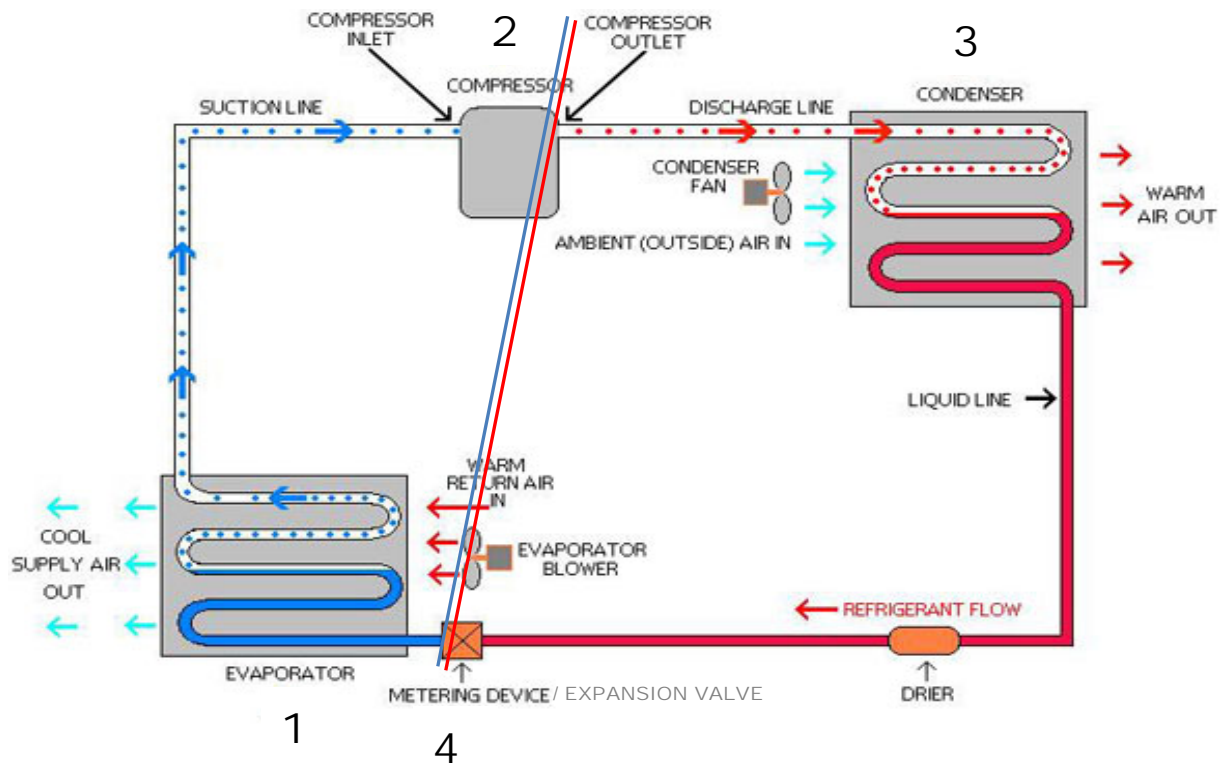

Figure 2: AC Refrigeration Cycle
A diagram of the AC refrigeration cycle (figure 2) shows the refrigeration process and key AC unit components. There are four (4) major AC components which are split into two (2) sections:
- Indoors - indicated in blue and includes AC parts numbered one (1) and two (2)
- Outdoors - indicated in red and includes AC parts numbered three (3) and four (4).
The refrigeration cycle is a process that removes heat from the indoor evaporator to outdoor condenser units. Let's start the process with the AC evaporator (#1 in figure 2) which is a heat exchanger that uses the refrigerant to absorb heat into the air conditioner system. Specifically, the liquid refrigerant flows through the evaporator where it absorbs indoor heat causing the liquid refrigerant in the evaporator to boil and become vapor. Note that the refrigerant usually flows from the bottom of the evaporator coils and boils as it moves to the top in the evaporator. A primary function of the evaporator is to boil the liquid refrigerant so that it becomes vapor.
The second step of the refrigeration cycle involves the compressor (#2 in figure 2) which is often called the heart of the AC unit. As stated earlier, it's one of the dividing points between the high and low pressure sides. The compressor produces the pressure differential and causes the refrigerant to flow.
As depicted in Figure 2, the compressor has a refrigerant inlet line and refrigerant outlet line. The inlet lines (blue) are known as: suction pressure; back pressure, or low side pressure. And outlet lines (red) are known as: discharge pressure; head pressure or high side.
The next step in the refrigeration cycle involves the AC condenser (#3 in figure 2) where the air is cooled. It functions the same way as the evaporator, but it does the opposite. The condenser units are located outdoors with the compressor. Its purpose is to reject both sensible and latent heat of vapor absorbed by the AC units. It receives high temperature, high pressure, superheated vapor from the compressor, and rejects that heat to the low temperature air. After rejecting all the vapor heat, the refrigerant state is condensed back from a vapor to liquid refrigerant.
During final step in the refrigeration cycle as depicted in Figure 2, the refrigerant flows through the metering device/expansion valve at specified levels, and thus beginning the continuous cycle of refrigeration.